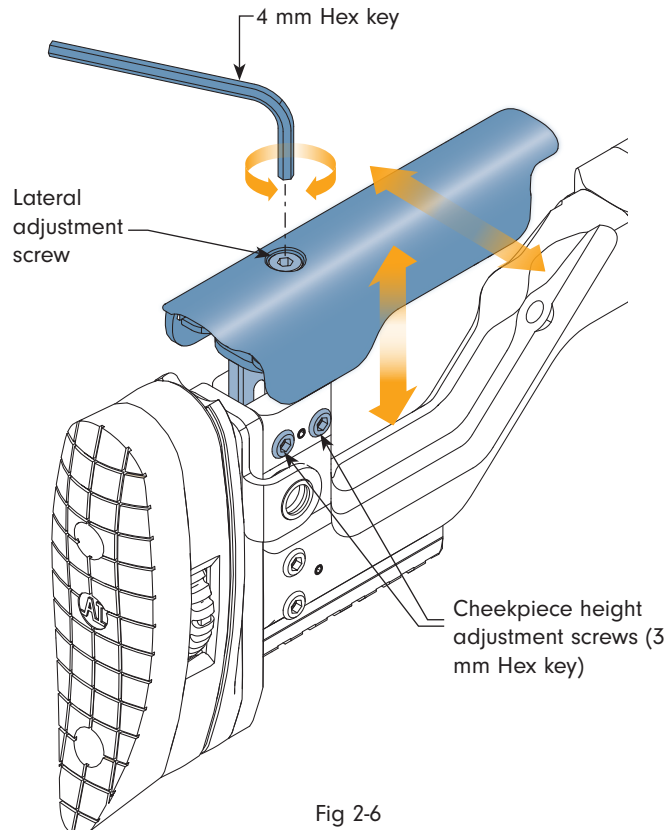

Fig 2-6
- Use a 3 mm hex key to loosen the two adjustment screws (see Fig 2-6).